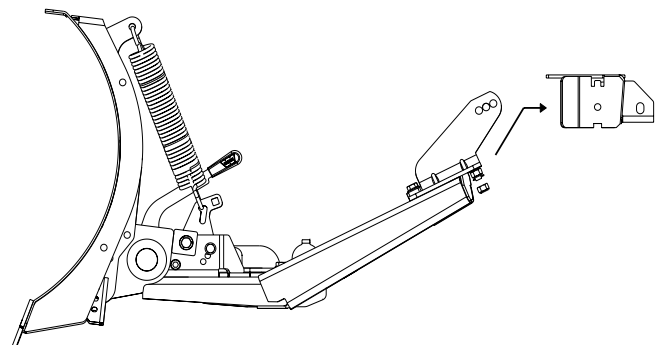

Figure 12
3. Turn off the vehicle and set the parking brake. Lift the plow mount flange end of the push tube assembly up to the plow mount on the vehicle. Insert the plow mount flange into the plow mount receiver. See Figure 12.